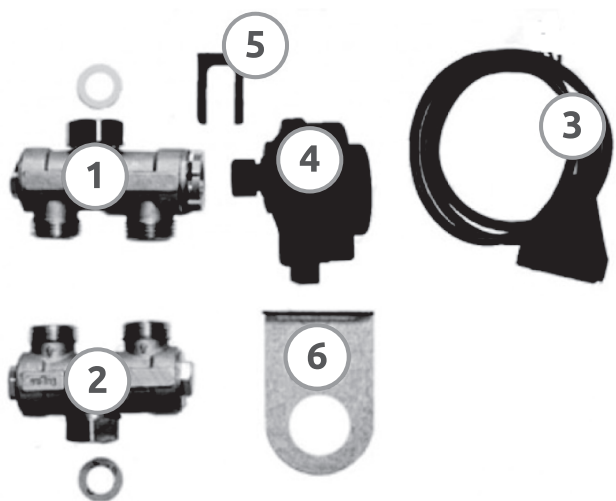

Figure 20 - Connection kit (FUGAS).
- 1) Separating three-way valve (item 1 of Figure 20) with electric drive (item 4 of Figure 20);
- 2) Tee $\frac{3}{4}$ " (position 2 of Figure 20);
- 3) Power cable of the three-way valve drive (item 3 of Figure 20);
- 4) Mounting brackets for the three-way valve drive (items 5, 6 of Figure 20).